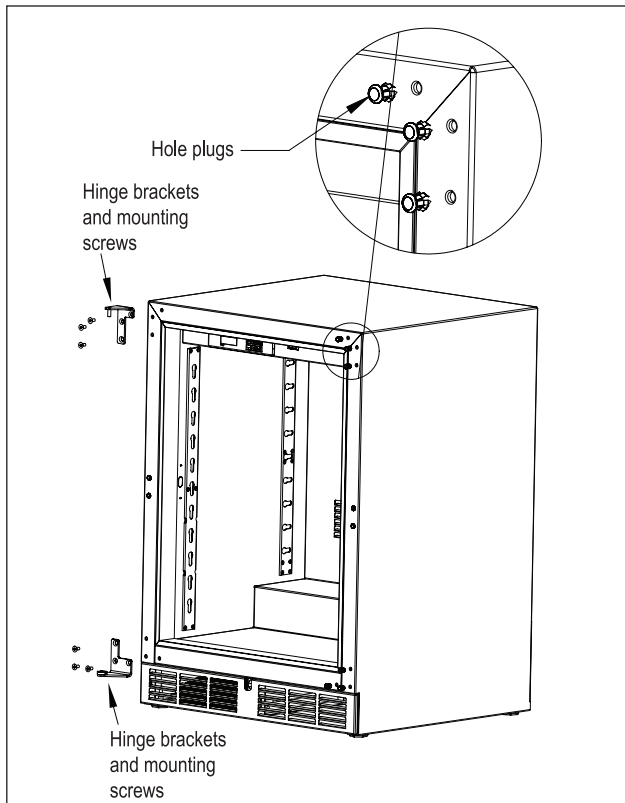

Figure 8. Hinge Removal
3.) Remove top and bottom hinge brackets. Retain screws for later use. See Fig. 8 on page 9.
4). Remove the hole plugs from the top and bottom hinge bracket mounting holes (see Fig. 8 on page 9). Place the plugs in the holes on the opposite side made vacant by removing the hinges in step 3.